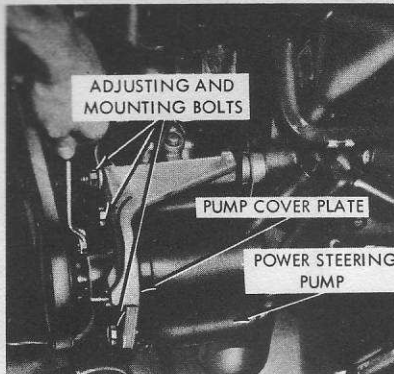

Fig. 11.23 Power steering pump adjusting and mounting bolts (Sec 18)
- (b) Adjust the tension by loosening the adjusting and mounting bolts on the front face of the pump cover plate (hub side) (see Fig. 11.23). Place a tension gauge in the drivebelt, insert a pry bar as shown in Fig. 11.24 and adjust the tension. **CAUTION:** Do not lever against the fluid reservoir as it can easily be damaged. Tighten the adjusting arm bolt first and then the mounting bolts. Recheck the tension.